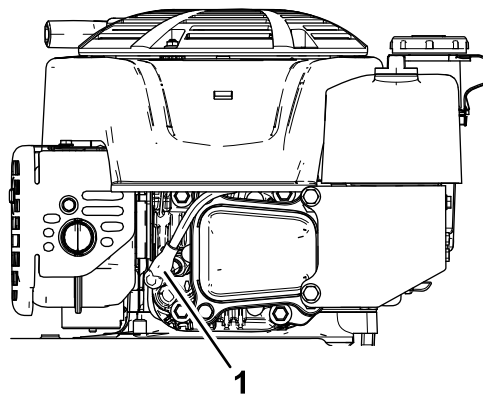

Figure 29
2. Disconnect the spark-plug wire from the spark plug (Figure 29).